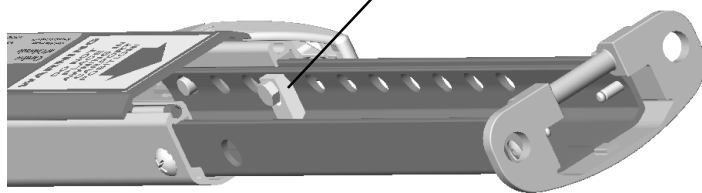

Figure 9
A. Determine the optimum positioning of the awning arms on the RV. Be sure the arms will not interfere with appliance exhaust vents, mirrors, storage compartments, etc. Consider the correct positioning while noting the wiring outlet must be installed through the side of the RV at a point 3" - 5" below the awning rail and 1"- 4" to the left of the front arm assembly. (figure 9)